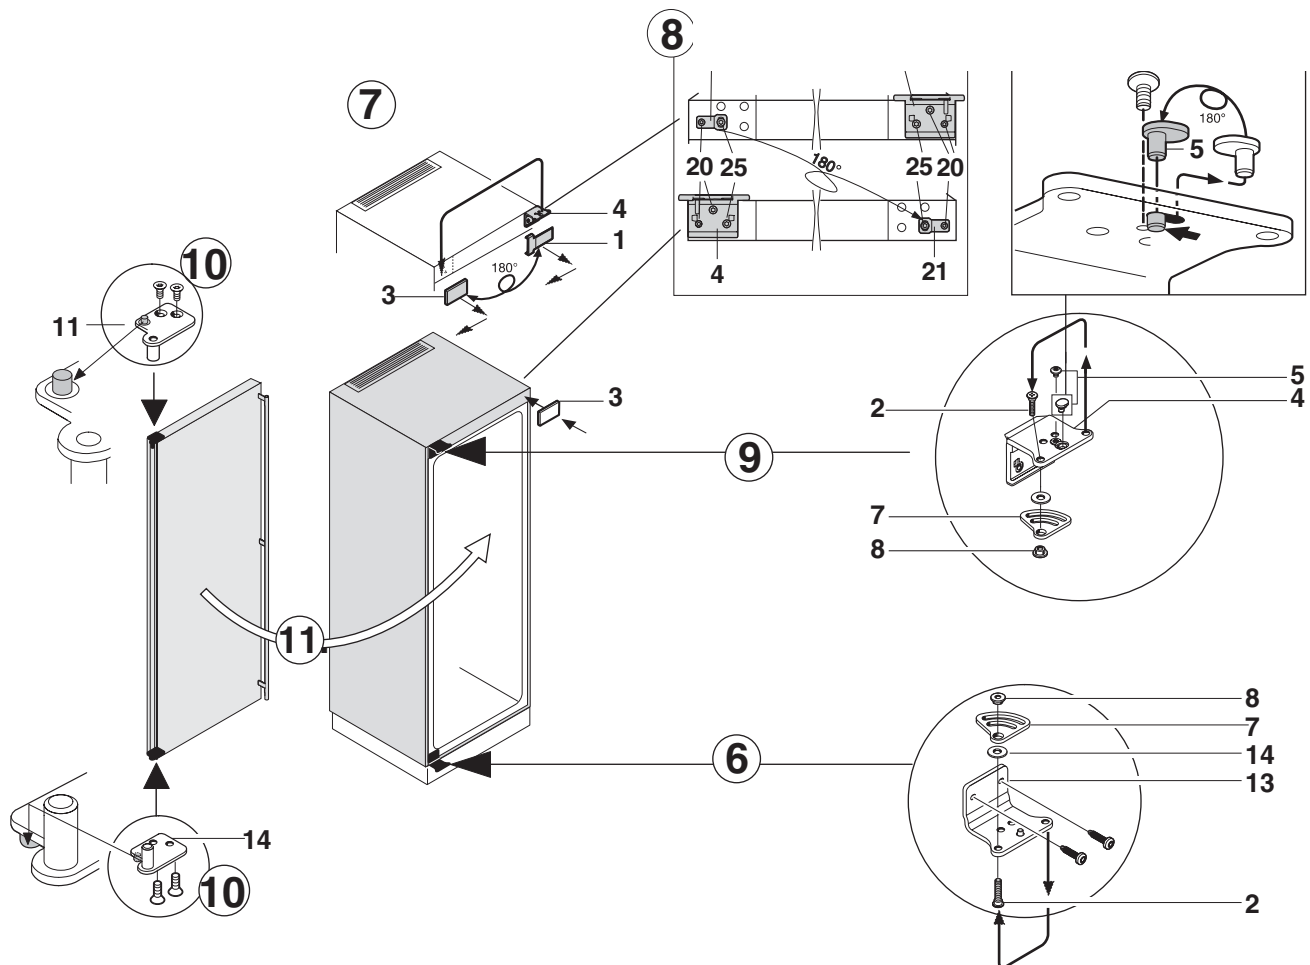

Figure 11
6. **Figure 11.** Unscrew the lower hinge (13).
- Transfer hinge pin (2) to the opposite side.
- Turn the stop (7) through 180° and position bushing (8) and washer as shown in the detailed drawing.
- Screw on hinge (13) on the new hinge side.
7. Lift up cover (3) on handle side, push outward; lift up cover (1) on hinge side and pull off.
8. Unscrew mounting plate (21): first mounting screw (20), then inner retaining screw (25).
- Unscrew hinge (4): first remove mounting screw (20) and then retaining screws (25). Fit hinge (4) to opposite side: for easy assembly, fit hinge from above and first tighten with the upper retaining screw M5 (25), then screw (25) and finally the mounting screw M4 (20).
- Turn mounting plate (21) 180° and tighten screw on the new handle side: first the retaining screw (25), and then the mounting screw (20).
9. Remove the eccentric (5) with the retaining screw in the hinge (4).
10. On the door: Reinstall the door fittings (11, 14). These were marked top and bottom. Place the bottom now at the top and the top at the bottom. Pay special attention to the fittings (11) with the stop.